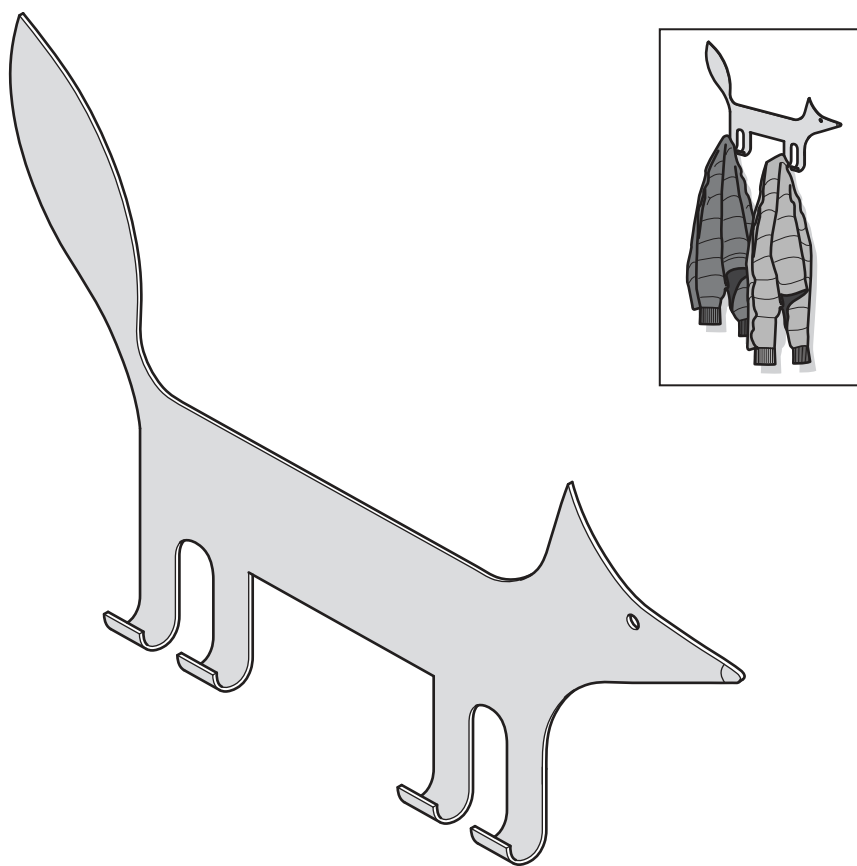

Fig. 12.1
- 12 Fig. 12.1 shows an incomplete design for a coat hook used by children. The coat hook is made from 2 mm thick mild steel sheet.